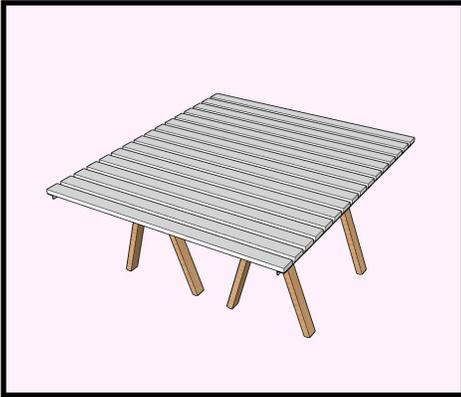

Fig 1
2. The process for cutting down a screen is shown in figures 1 thru 6. (see below)